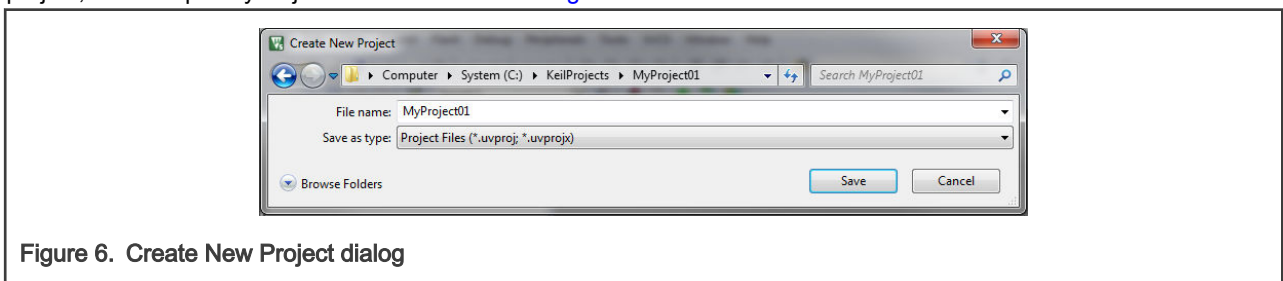

Figure 6. Create New Project dialog
3. Navigate to the folder where you want to create the project, for example C:\KeilProjects\MyProject01. Type the name of the project, for example MyProject01. Click Save. See Figure 6.